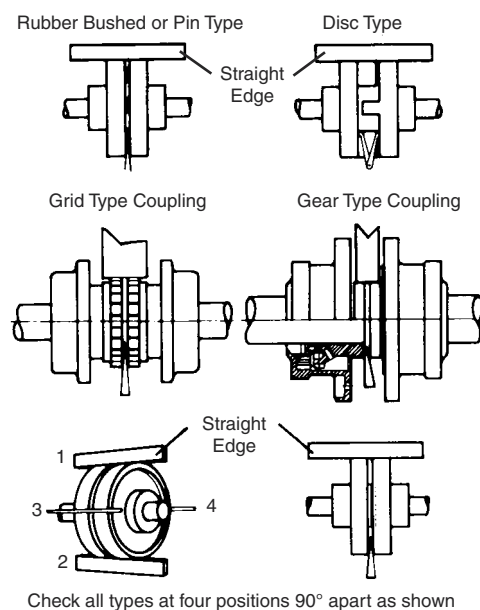

Figure 14
10. Align the shafts until a straightedge appears to be parallel to the shafts. Repeat at three additional points at 90° from each other. Recheck angular alignment and hub separation. (See Figure 14)